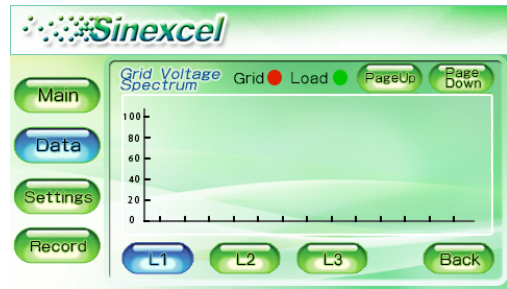
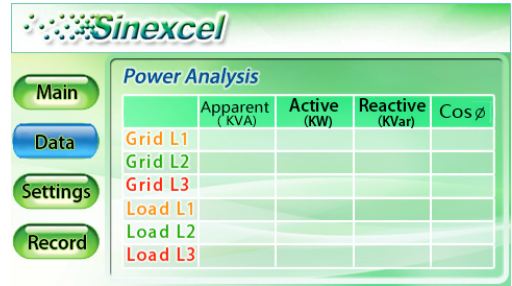
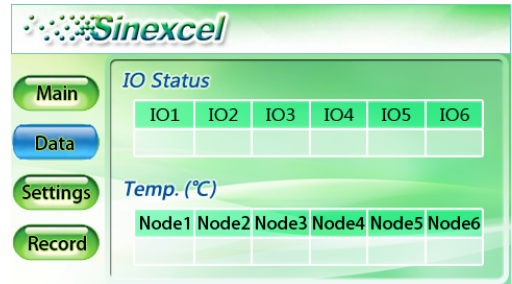

Figure 5-5 Spectrum of grid voltage
Figure 5-10 Power analysis
Figure 5-11 I/O status and node temperature
- ◆ Click “**Current**” in Figure 5-5 and enter the main interface of current, as shown in Figure 5-6;
- ◆ Click “**Power Analysis**” in Figure 5-5 to check power data at grid side and load side, including apparent power, active power and reactive power, as shown in Figure 5-10;
- ◆ Click “**IO/Temp.**” in Figure 5-5 to check IO status and node temperature, as shown in Figure 5-11.